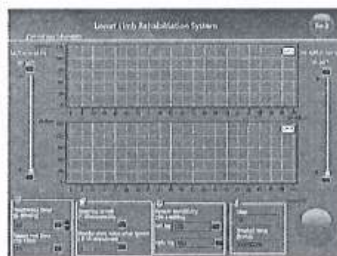

Figure 12 Treatment page
7. Click the passive training button to enter the system treatment page, as shown in Figure 12. (If the COM port is not selected correctly in the second step, or the device is not connected correctly, a serial port open error prompt box will pop up at this time).
As shown in Figure 12 above: